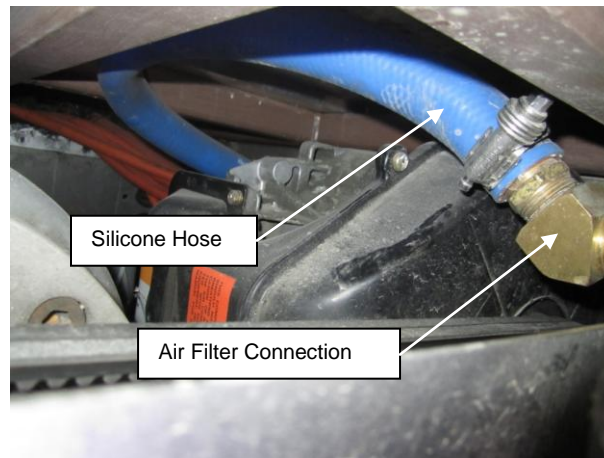

Figure 4: Silicone Hose Routing.
8. Route the blue silicone hose over the top of the compressor and towards the compressor intake. Figure 4.
10. Attach the end of the hose to the 90 deg elbow using hose clamp NF P/N 274935. Figure 4. Torque hose clamp to 56-62 IN-LBS.